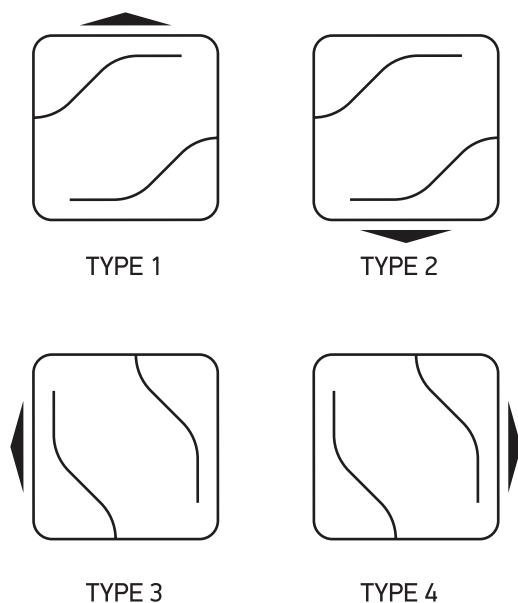

Figure 6.1. Types of device orientation
2. Select the type of device orientation according to the desired airflow direction from the device (Figure 6.1).